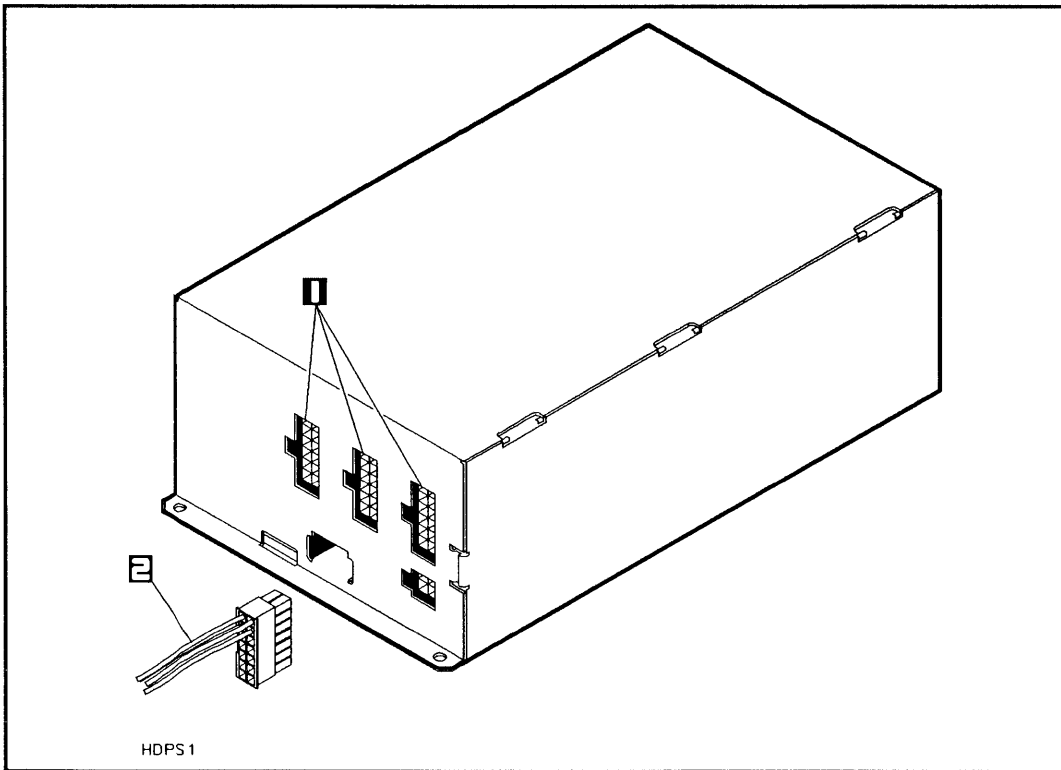

Figure 3-13. Connecting the DC Power Cable
6. Connect the long end (with the 14-pin connector) of the dc power cable to any of the unused dc power connectors on the power supply (see Figure 3-13).